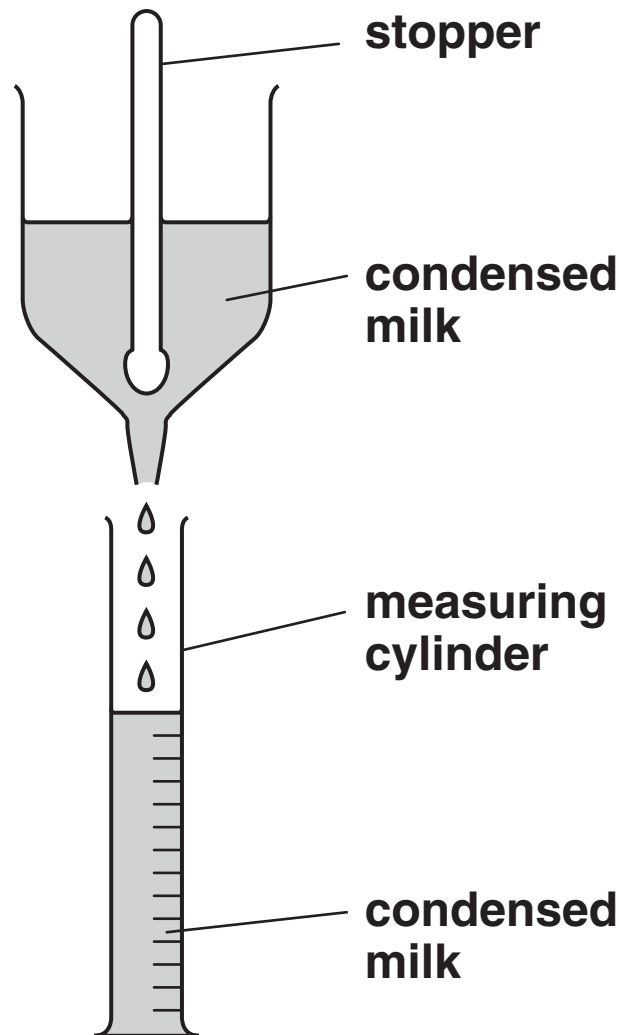

Fig. 1.5
They used the apparatus shown in Fig. 1.5.
- (ii) Suggest a modification to the apparatus shown in Fig. 1.5 so that the temperature of the samples can be kept constant.